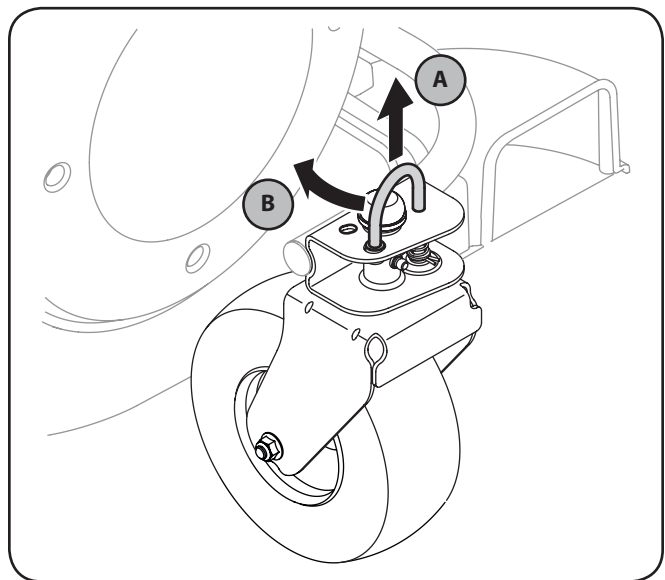

Figure 5-2
1. To lock the caster, lift the lock pin and rotate it rearward, releasing it into the larger hole. See Figure 5-2.